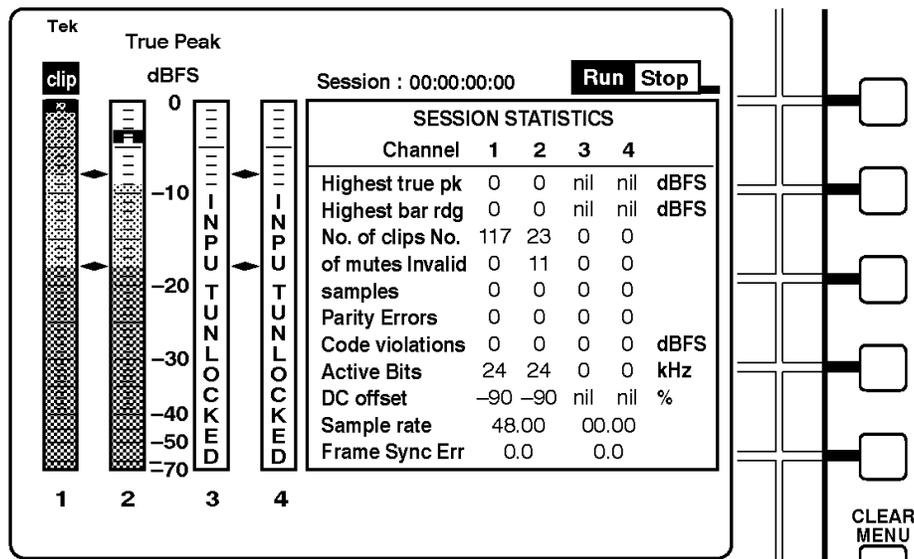
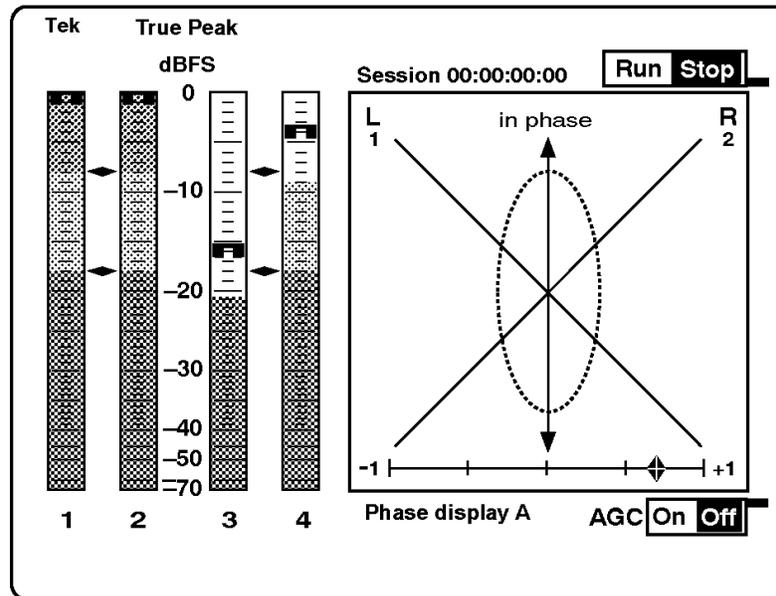

Figure 12: The 764 AUDIO/SESSION view
Figure 13: The 764 AUDIO/PHASE view
The Audio view (with the Session Statistics displayed, as shown in Figure 12) is the power-up default configuration of the 764. Otherwise, the Audio View is never more than two button presses away:
The left portion of the Audio view display always contains four “bar graph” level meters. The right portion contains either a numerical display of session statistics (see Figure 12), or the Phase display (shown in Figure 13). Configure the right side of the Audio view display with the three PHASE DISPLAY buttons: **A**, **B**, and **SESSION**.
The **A** and **B PHASE DISPLAY** buttons select a Lissajous Phase display with correlation meter, as illustrated in Figure 13. The A and B phase pairings are, by default:
The **SESSION** button selects a Session Statistics panel, illustrated in Figure 12. Refer to *The Session Display* beginning on page 29 for more information.
- (4) **METER SCALE buttons.** Use the METER SCALE buttons to change the Audio view level meter scale. The default scale, selected with **NORMAL**, is illustrated in Figure 12. Use **EXPAND** and **OFFSET**—with the multi-function knob—to configure the range and offset of the custom scale. Refer to *The Level Meters* beginning on page 18 for more information.
- (5) **Multi-function knob.** Turn the multi-function knob to expand and offset the meter scale, and to scroll various on-screen menus. The
- (6) **MENU button.** Press MENU to invoke the display menu and call up context-sensitive help text when a menu is on screen.
- (7) **Soft buttons.** The five white soft buttons are used to select choices or toggle settings that are indicated on the CRT display. In Figure 12, for example, the top soft button is used to toggle the Session between Run and Stop.
- (8) **CLEAR MENU button.** Press CLEAR MENU to exit the on-screen menu and return to the most recent view (Audio, Channel Status, or User Data).
- (9) **Headphone VOLUME control.** The VOLUME knob controls the analog headphone output gain; on instruments equipped with Option 02, it also controls the gain of the rear-panel analog audio outputs.
- (10) **Display BRIGHTNESS control.** Turn the BRIGHTNESS knob to adjust the brightness of the 764 display. Does not affect the output of the rear-panel VGA VIDEO connector.